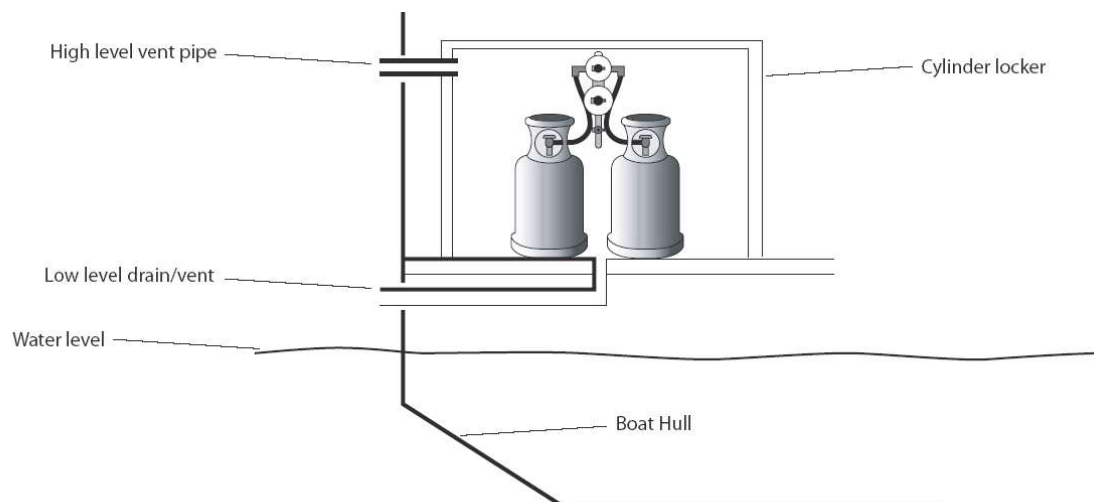

Figure 1: Typical view of a boat cylinder locker installation
- Be ventilated directly to the boat's exterior by a high level vent and have a 19mm diameter (minimum) low level drainage vent, which terminates at least 500mm from openings into the boat's interior. (See Figure 1)